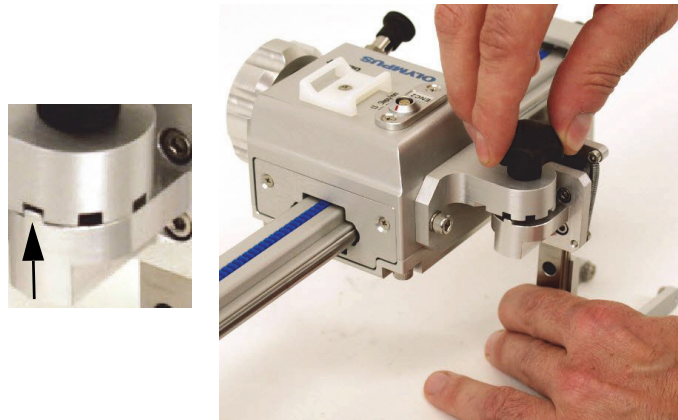

Figure 2-20 Aligning the notch in the new position
3. Align the notch in the new position (see Figure 2-20 on page 39).